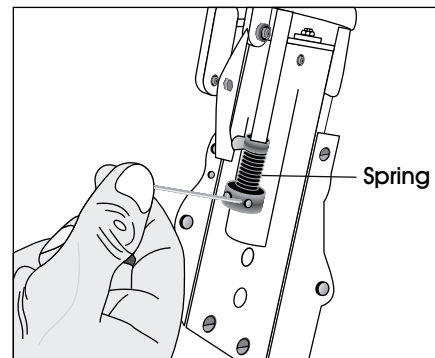

Figure 33
5. Loosen collar with a 3 mm Allen wrench to remove the spring. (See Figure 33)